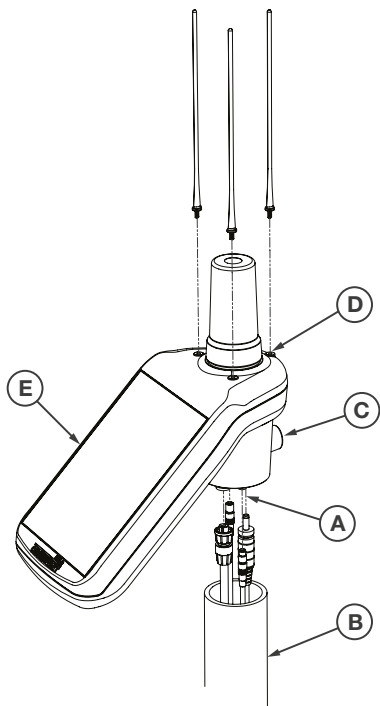
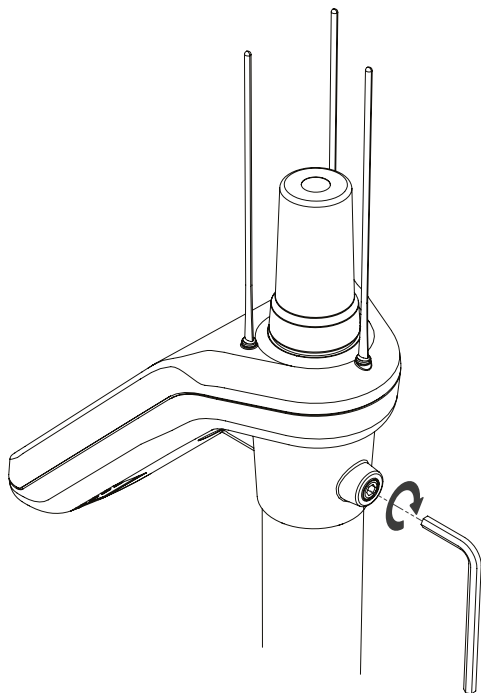

Figure 4. Solo installation
Figure 5. Securing the Solo to its post
- Connect appropriate sensor and power cables to corresponding ports on the Solo connection panel (Figure 4-A, pg. 20).
- Orient the solar panel appropriately (refer to Appendix A3, pg. 33). Tighten the retaining screw with the hex key (Figure 4-C, pg. 20; Figure 5, pg. 21).
- Gently press the three bird deterrent spikes into their sockets (Figure 4-D, pg. 20).
- Remove the protective label covering the solar panel (Figure 4-E, pg. 20).